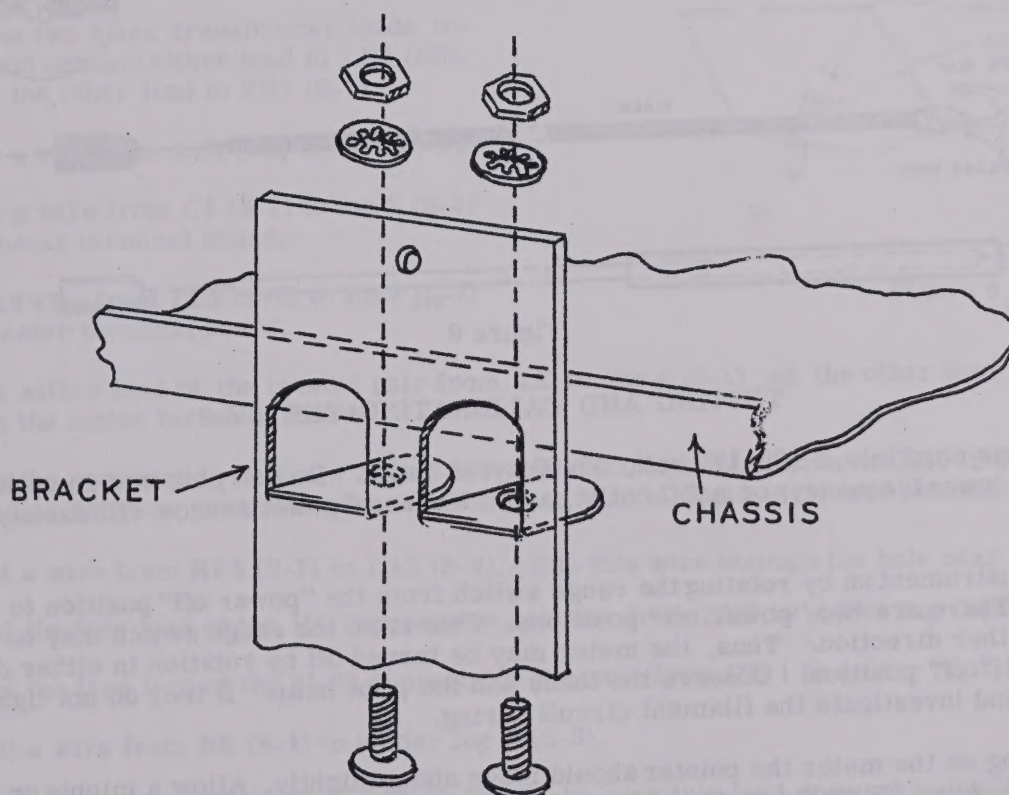

Figure 7
- ✓ Mount the chassis bracket using 6-32 hardware. The bracket attaches to the panel by meter mounting screw M4. Refer to Figure 7.